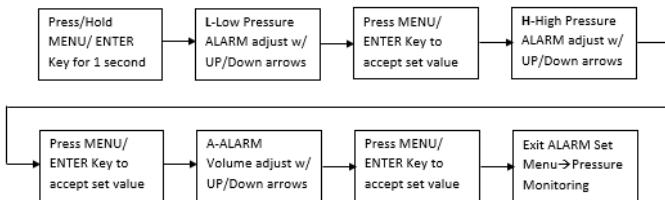

FIGURE 12
7.6 Adjusting Alarm Settings (FIGURE 12)